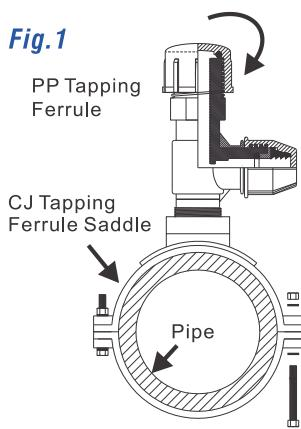

Fig.2
5. To perform tapping, remove the cap, insert the T-bar onto the recess of the cutter. ( Figure 2 )